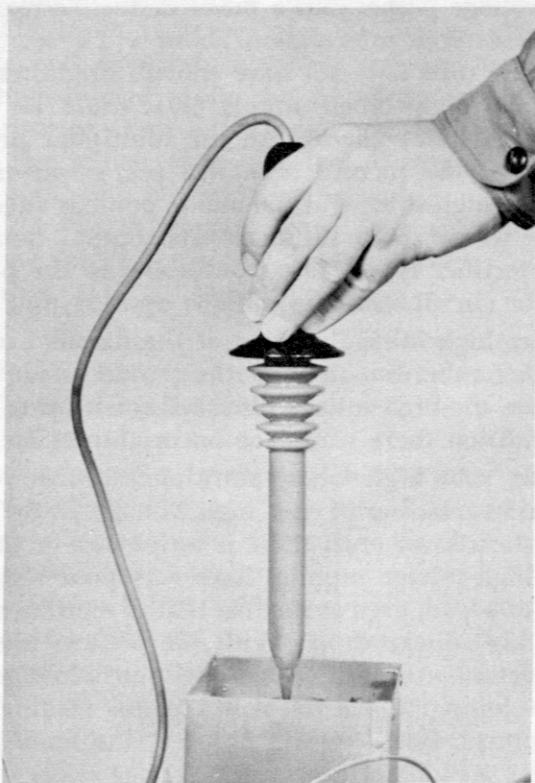

Fig. 617. *Correct technique for using a high-voltage probe.*
3. When making high-voltage checks, keep your fingers *behind* the barrier, toward the cable end of the probe. Don't let your fingers extend over the flanges of the barrier. The safety flanges are designed to present a long path to high voltage—eliminate danger from contact or corona. The correct way to use the probe is illustrated in Fig. 617.